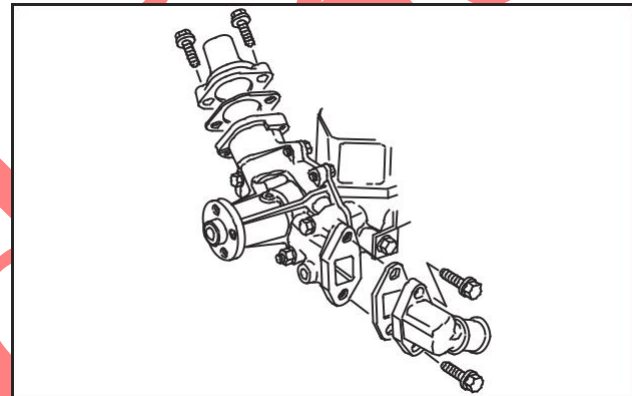

Fig. 11 – Installing Coolant Inlet And Outlet
2. Install coolant inlet with new gasket, Fig. 11.
3. Install thermostat and coolant outlet with new gasket, Fig. 11.